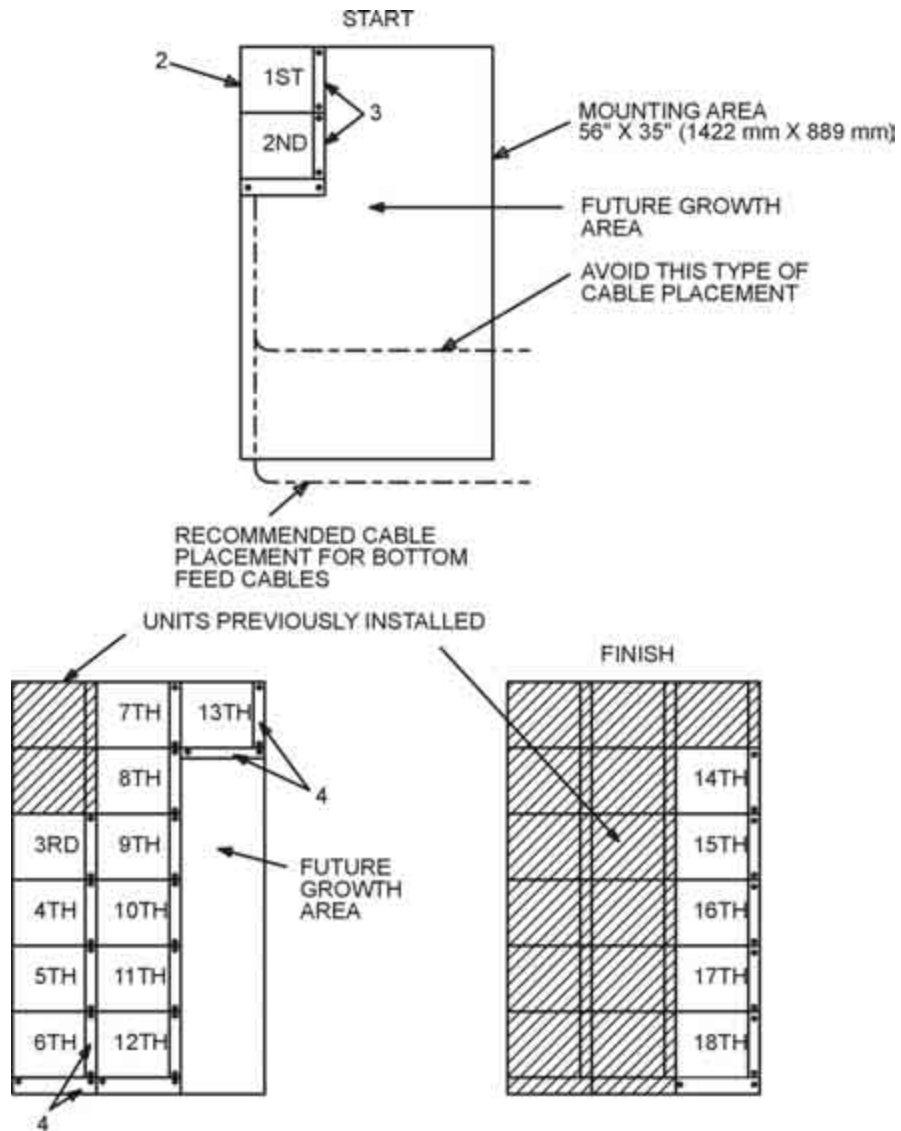

Figure 4. LIU Installation to a Backboard or Wall
1. Each 200A LIU is provided with four sheetmetal/wood screws for mounting the module to a backboard. A 2A6 trough is mounted below the bottom module in each column of modules (see Figure 4 for illustration). Two sheetmetal/wood screws are provided with the 2A6 trough.